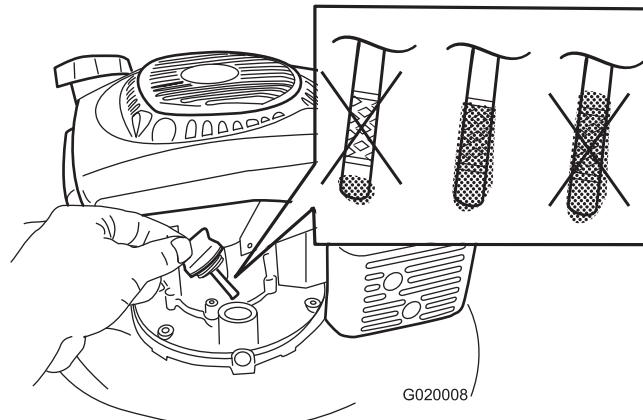

Figure 22
7. Slowly pour oil into the oil-fill hole until the oil level reaches the Full line on the dipstick (Figure 22). **Do not overfill.** (Max. fill: 0.59 l (20 oz.), type: 10W-30 or SAE 30 detergent oil with an API service classification of SJ or higher.)